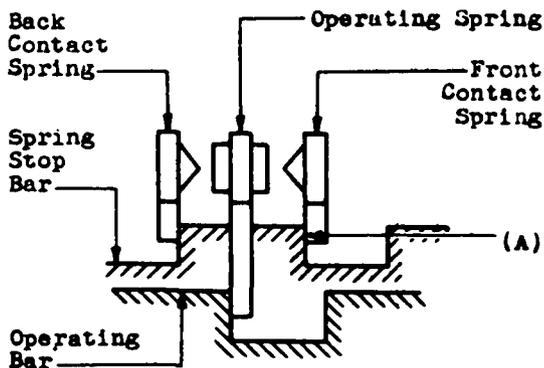

Fig. 14 - Tang Pressure - Transfer Spring Combination - Front Contact Spring
(2) Front Contact Spring Tang - Fig. 14